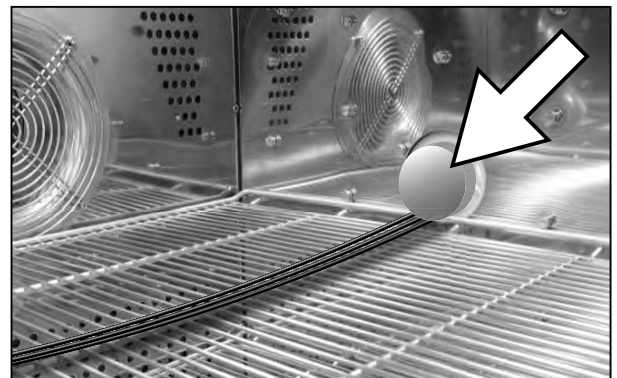

Fig. 18 Cable feed-through with plugs in the right-hand side of the appliance
► Switch on appliance by pressing the main switch on the front of the appliance (see Fig. 18 on page 27).
4. Check whether the silicone plugs have been inserted into the feed-through on the right side of the appliance and if the seal is tight (see Fig. 18 on page 26).
The pressure compensation can be accelerated considerably by removing the silicone plugs (Fig. 18 on page 26).
For test samples which require wires during the test (for power supply or for measuring purposes), the test chamber is equipped with a cable feed-through on the right-hand side (Fig. 18, see also page 10).
Pull out the silicone plugs if they are plugged in (Fig. 18), and push the wires into the interior of the chamber. Then re-insert the plugs and press them tight, so that no heat/humidity can escape from inside the chamber through the feed-through.